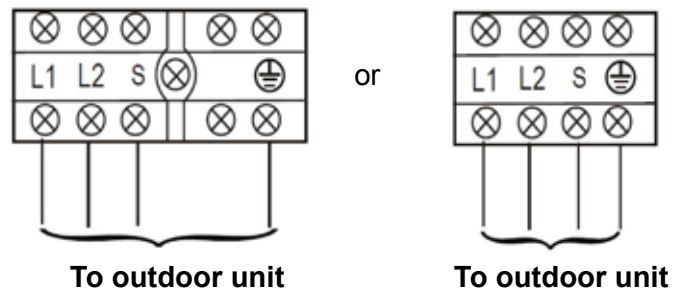

Fig. 23
3. Connect each conductor to the terminal of the indoor unit (L1, L2, S and Ground) based on the labels of each terminal (Fig. 23).
4. Use strain relief to secure the cable (Fig. 23).